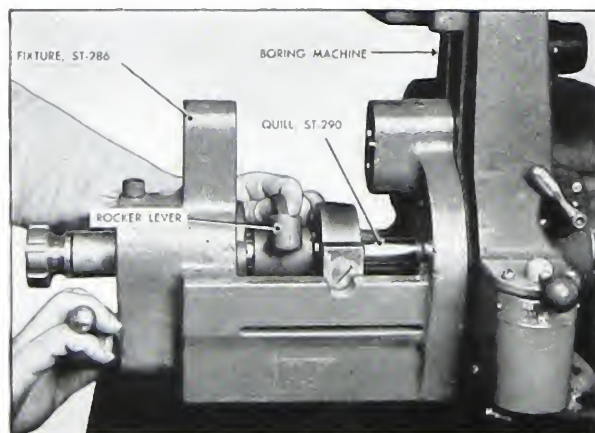

Fig. 4-7. Boring rocker lever bushing
6. Assemble the lever on the proper locating mandrel of the boring machine. Lock lever in position with clamp and remove mandrel. Bore bushing to 1.1245-1.1255. (Fig. 4-7).